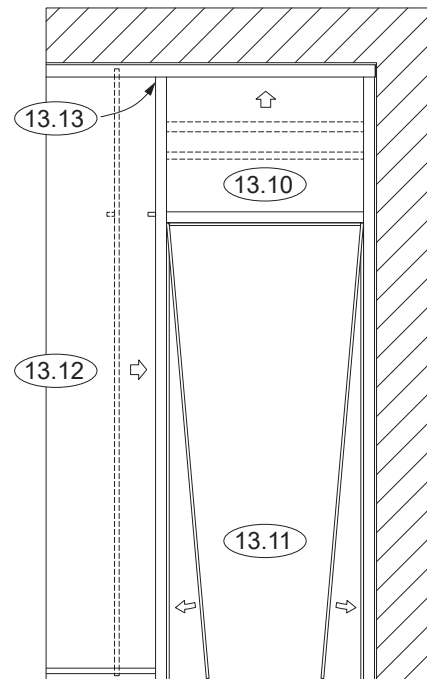

Figure 13.12
13.12: Install the pocket filler. See **Figure 13.12**. Ensure the top of the pocket filler is flush with the top of the mullion such as to allow a 1/2" vertical gap at the sill receptor as shown in **Detail 25A**.